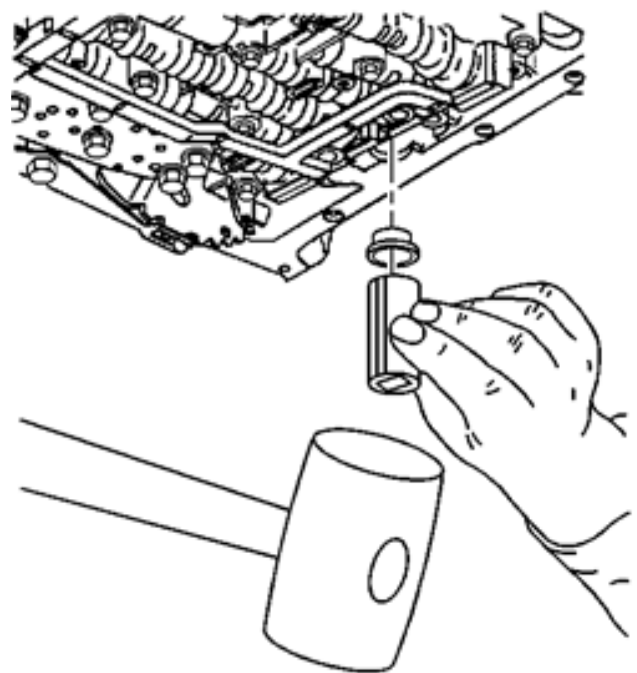

Figure 11
3. Install the new filter seal into the transmission case. Tap the seal into place using a suitable size socket. **Reference Figure 11.**